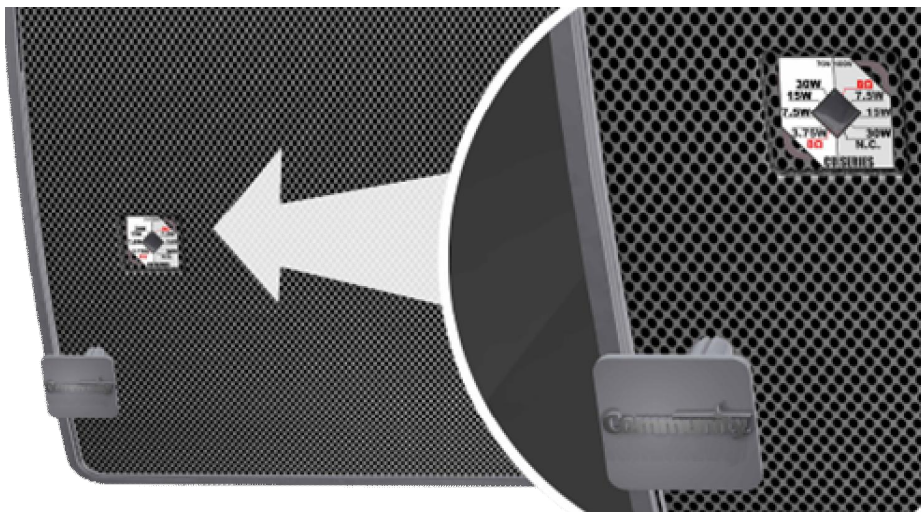

Fig. 16 - Tap Position Switch Access
Refer to figures 16 and 17 when following these adjustment procedures.
- Referencing the Tap Position Switch label behind the logo, use the flat-blade screwdriver to adjust and verify the correct setting for the system (See figures 16 and 17 for an example of a switch label).